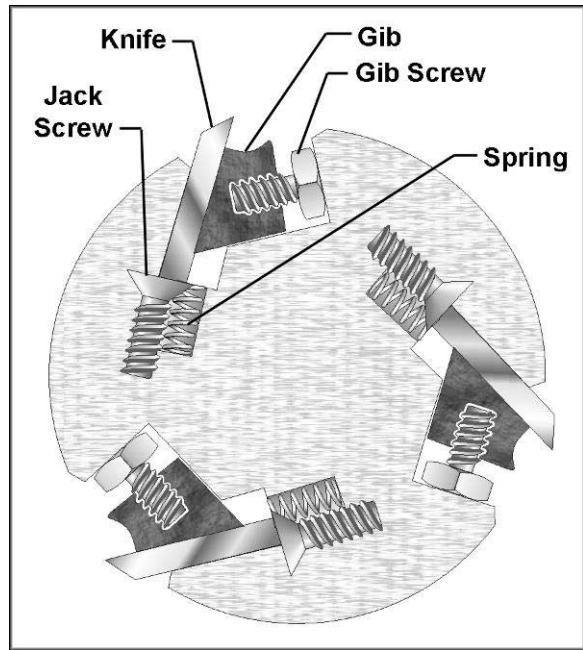

Figure 31 (straight cutterhead)
13. Slightly loosen the five gib screws (see Figure 31) with an 8mm wrench. (NOTE: The springs below the knife will cause the knife to rise.)